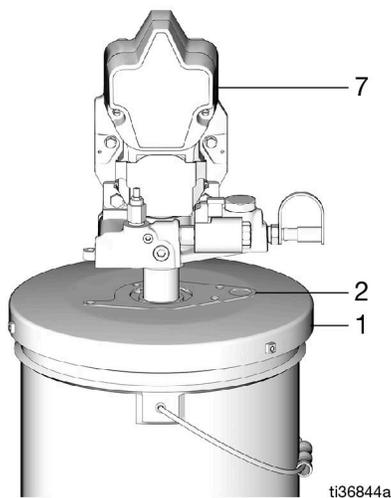

FIG. 8
8. Install the pump (7) on top of the cover, placing it through the gasket (2) and drum cover (1) (FIG. 8).